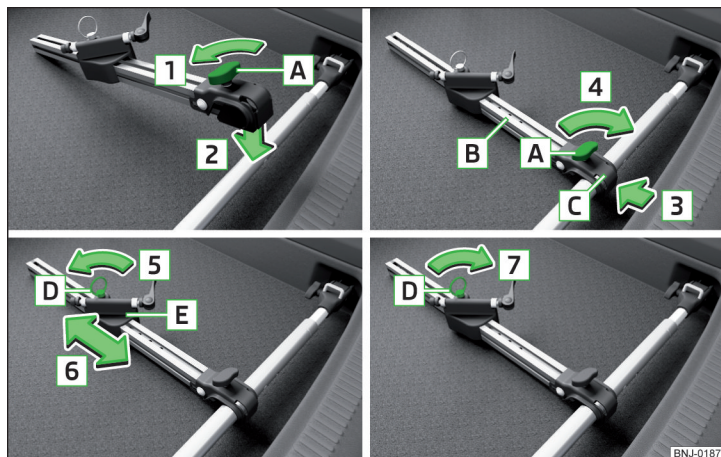

Fig. 120 Fitting the bike rack
- › To install, loosen screw **A** on the bicycle rack (hereinafter only referred to as "carrier") in direction of arrow **1** » Fig. 120.
- › If you want to transport two bicycles, loosen screw **A** » Fig. 120 on page 89 on the carrier and move the carrier along with attached bike to the left.
- › Tighten screw **A** » Fig. 120 on page 89 on the support.
- ▶ If necessary, the position of the sliding part **[E]** » Fig. 120 on page 89 can be adjusted.